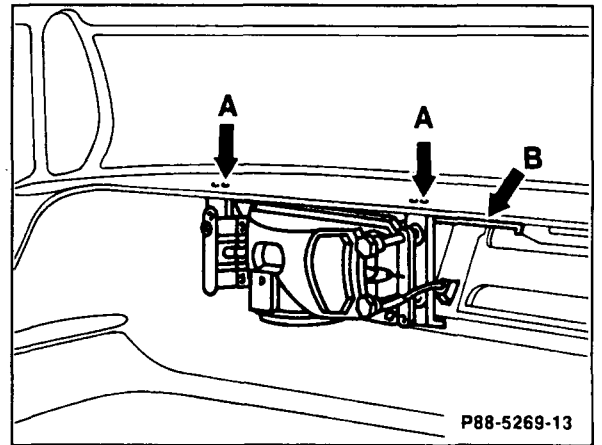

Figure 4
8. Insert driving lamp and bracket into mounting hole drilled previously and secure with rivets (A, Figure 4) provided.